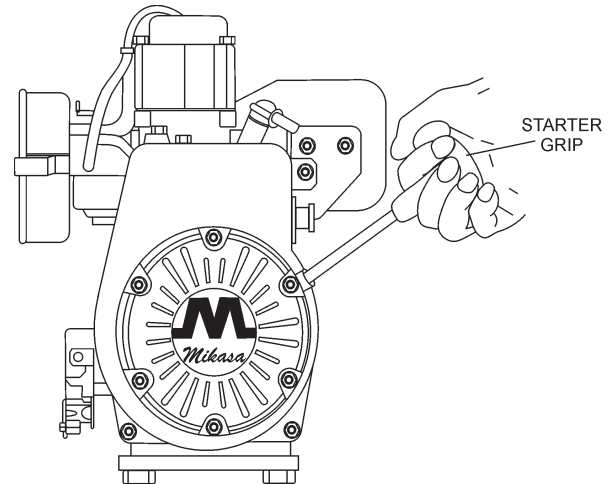

Figure 11. Recoil Starter
5. Grip the recoil starter (Figure 11) handle and pull it until you feel a slight resistance. Then pull sharply and quickly. Return the recoil starter handle to the starter case before releasing.